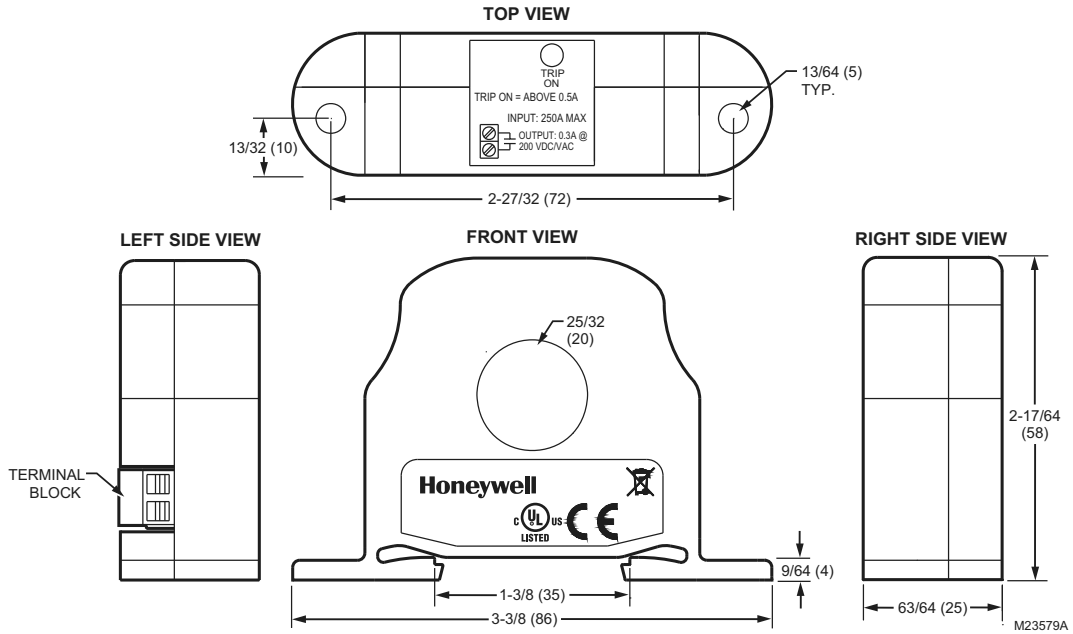

Fig. 1. CSS current switch dimensions in inches (mm)
**Dimensions:** See Figures 1 and 2